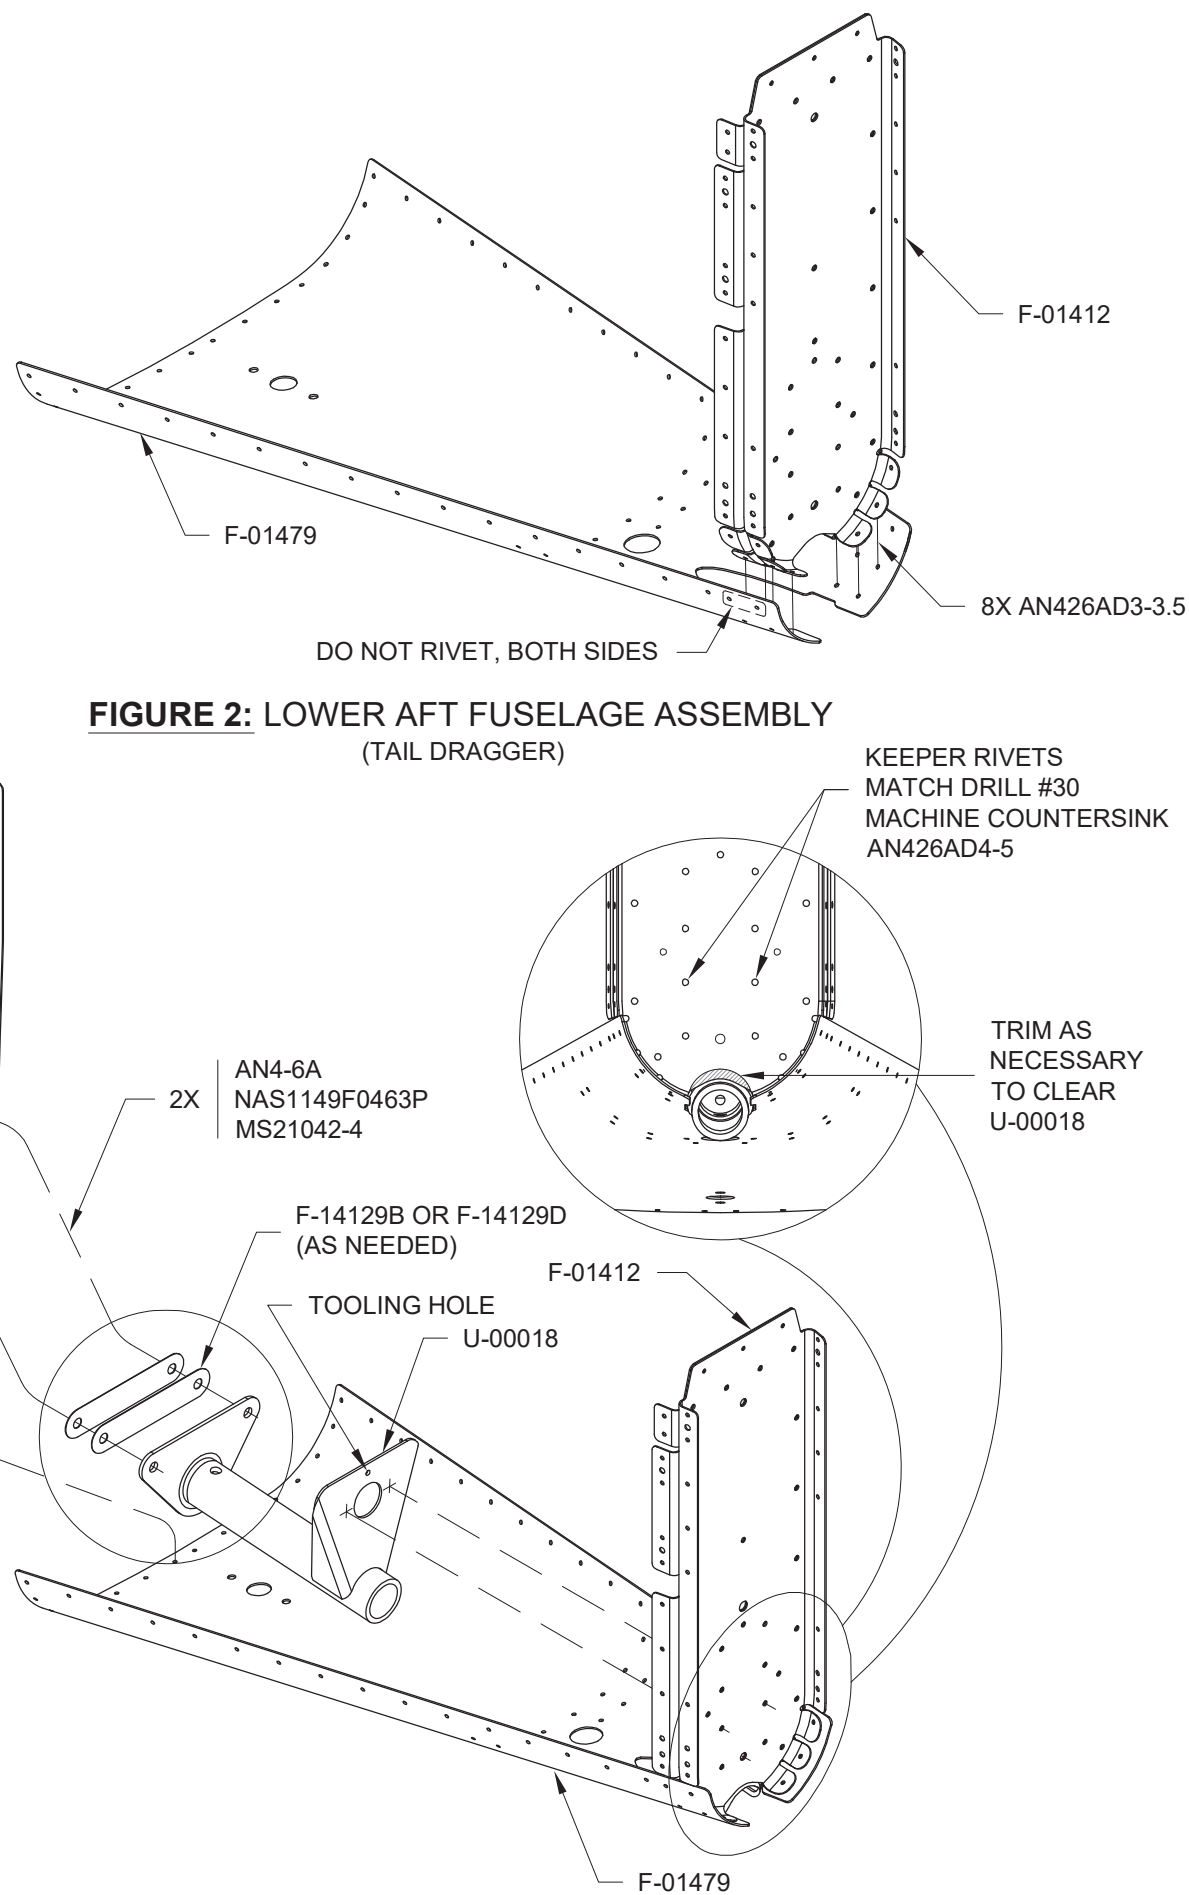

FIGURE 2: LOWER AFT FUSELAGE ASSEMBLY
Step 7 (Tail Dragger): Starting in the center and moving outwards, rivet the F-01479 Aft Bottom Skin to the F-01411 Bulkhead as shown in Figure 2 and on Page 10-19 Figure 2.
Step 8 (Tail Dragger): Rivet the F-01479 Aft Bottom Skin to the F-01478 Bottom Skin and F-01410 Bulkhead. See Page 10-19 Figure 2.